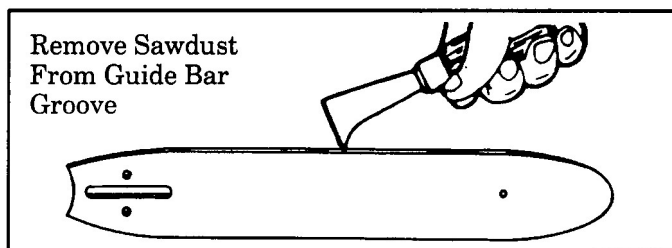

Figure 34
- Remove sawdust from the guide bar groove periodically with a putty knife or a wire. Figure 34.